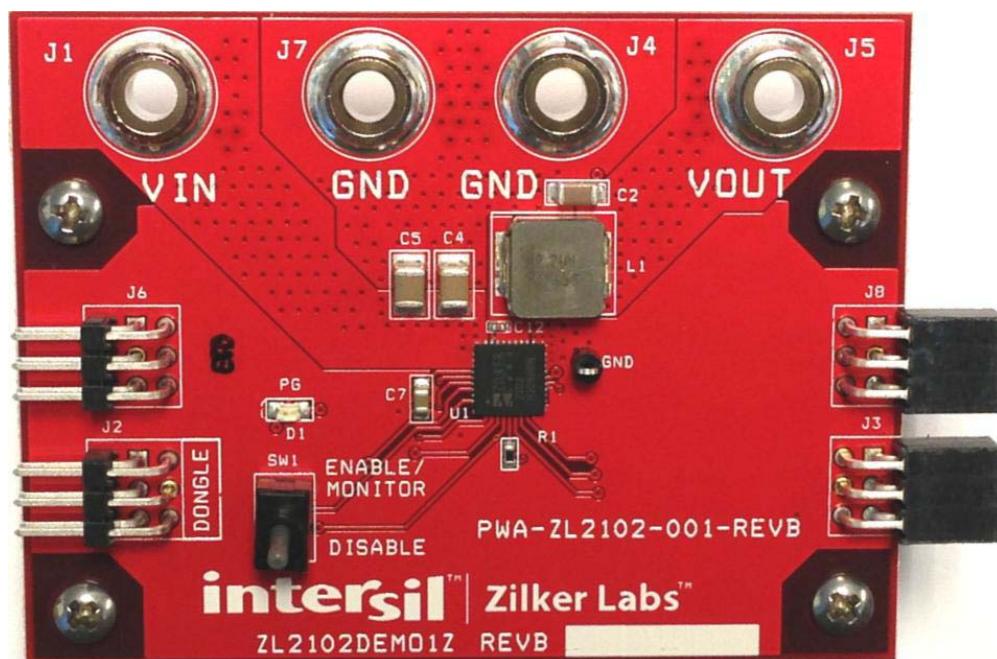
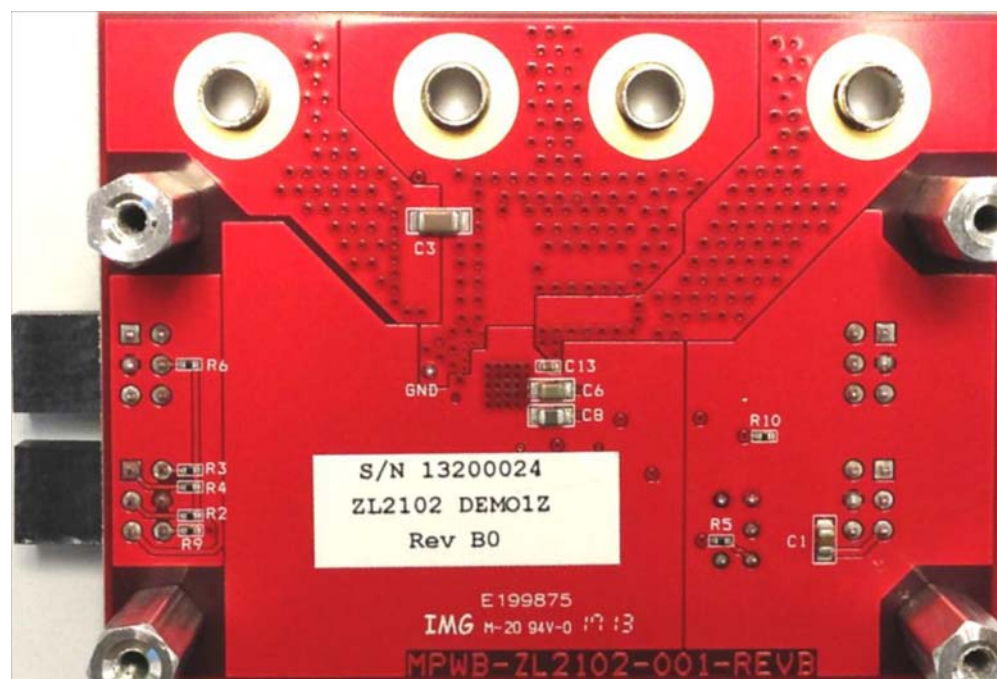

FIGURE 2. TOP SIDE
FIGURE 3. BOTTOM SIDE
The ZL2102DEMO1Z Demonstration Board is shown in Figure 2 and Figure 3. The hardware enable function is controlled by a toggle switch. The power-good (PG) LED indicates that  $V_{OUT}$  is regulating. The right angle headers at opposite ends of the board are for connecting a USB to SMBus control board or for daisy chaining of multiple Intersil evaluation boards.